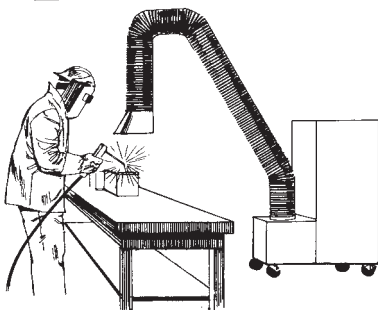

Figure 41-10: Bench with Portable Hood
- 3) Welding bench with portable or fixed hood (Figure 41-10).